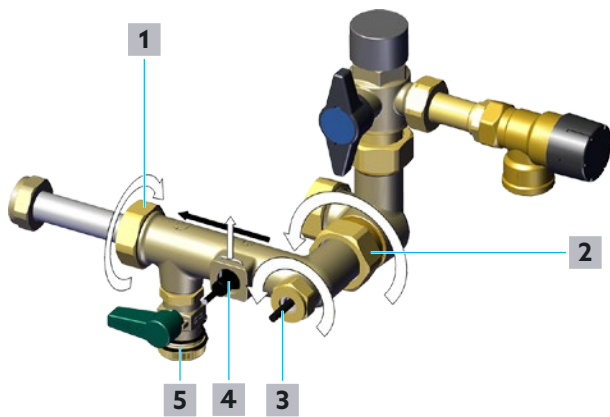

Fig. 35: Cleaning of the measuring turbine
- 7** Loosen the clamp of the volume flow sensor (position **4** in Fig. 35 on page 38) and put it aside.
- 8** Loosen the union nut of the temperature sensor for potable water (cold)/circulation S3 (position **3** in Fig. 35 on page 38).
- 9** Carefully pull the volume flow sensor for potable water circuit (position **4** in Fig. 35 on page 38) and the temperature sensor for potable water (cold)/circulation S3 (position **3** in Fig. 35 on page 38) out of the fitting.
- 11** Loosen the union nut cold potable water supply (position **2** in Fig. 35 on page 38) with a 38 mm open-end spanner.
- 12** Loosen the union nut heat exchanger side (position **1** in Fig. 35 on page 38) with a 37 mm open-end spanner.
Direct the flowing water through the fitting in the opposite direction to the flow direction (from the direction of position **1** in the direction of position **2** in Fig. 35 on page 38). A water hose with an appropriate spray nozzle is particularly suitable for this purpose.
- 4 Install the volume flow sensor for potable water circuit (position **4** in Fig. 35 on page 38) and the temperature sensor for potable water (cold)/circulation S3 (position **3** in Fig. 35 on page 38).